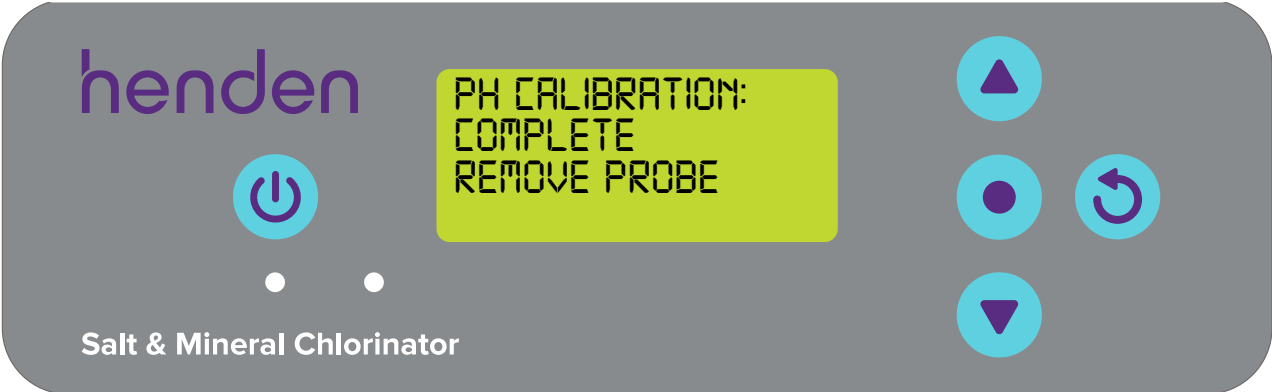

Figure 6.12
- Once complete, the display will instruct you to remove the probe (refer Figure 6.12).